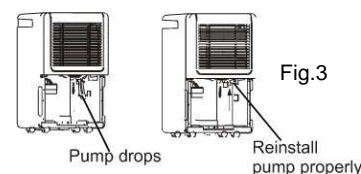

Fig.3
- If the pump drops when you remove the bucket, please reinstall the pump properly before replacing bucket. (Fig.3)